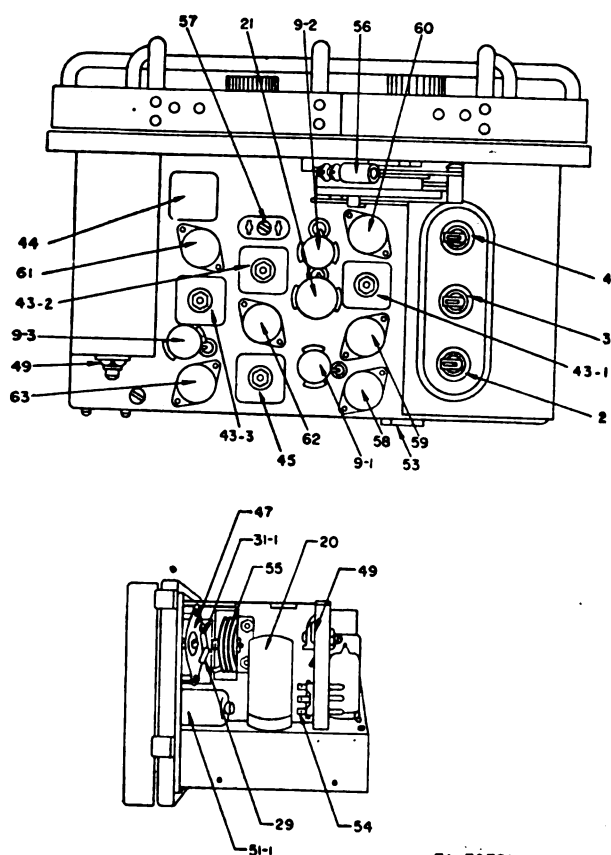

Figure 5. Parts identification, top and end view of receiver, Radio Receiver and Transmitter BC-1306.
**c. CRYSTAL.** The calibrating crystal holder (fig. 5), is accessible after removing the tube shield assembly. Remove the holder by pulling straight upward.